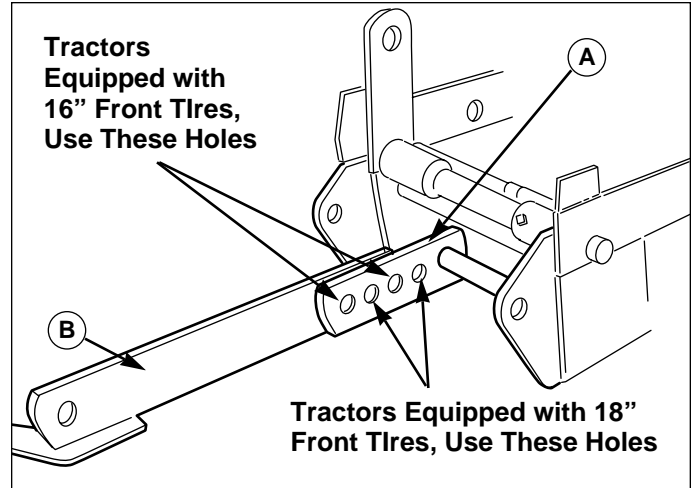

Figure 5. Assemble Dozer Lift Arm
1. See Figure 5. Assemble the dozer lift arm (B) to the dozer hitch (A) using two 1/2-13 x 1-3/4" capscrews, lockwashers, and nuts. Insert the capscrews from left to right in the holes shown.